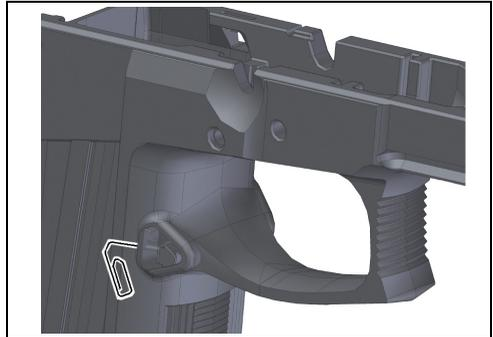

Fig. 7, Releasing the magazine catch stop (illustration without trigger)
2. Push the straightened end of a paper clip into the opening of the magazine catch. The sear of the magazine catch stop **25** is released (see Fig. 7).